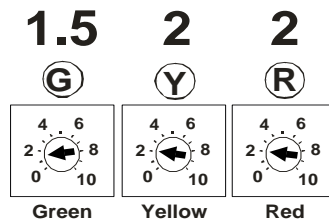
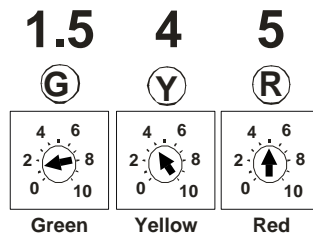

FIGURE 4
FIGURE 5
10. Before re-installing the simulated fuel tank cover and lowering seat verify your connections. Remove the door from the Fi2000 box to expose the LED's. **NOTE:** The Fi2000 base pot settings come preset from the factory for the V-Rod configured with stock air cleaner and full aftermarket exhaust, shown in Figure 4. If the motorcycle is different then this configuration, use the advance tuning section to determine the proper settings along with Figure 5. Verify the wire connections by (1) turning the ignition on, prior to starting, and see if all three LED's are on steady then cycle off after a few seconds. If you have no light, your ground connection (BLACK wire) has not made proper contact or your front injector connection is not complete. (2) After achieving a steady light from all three LED's, start the motorcycle, wait 15 seconds and let it idle, the green light should now be the only LED on. If all three LED's are still on after start up, verify you have attached the injector connectors correctly. Reattach the door when finished. Note: Make sure the ignition is turned off before changing any connection.
Your Fi2000 fuel injection module has been tested and preset for best function and rideability on a motorcycle with aftermarket air cleaner and an aftermarket performance exhaust. The Fi2000 does however, have 3 important adjustments that allow you to tune the module for optimum performance, especially if you have performed other changes to your motorcycle. These adjustments also allow you to resolve drivability issues if our stock settings are not exactly right for your bike. Make sure your motorcycle is up to normal operating temperature (15 minutes of riding should be sufficient) before making any adjustments. Remove the door to expose the pots shown in Figure 4.